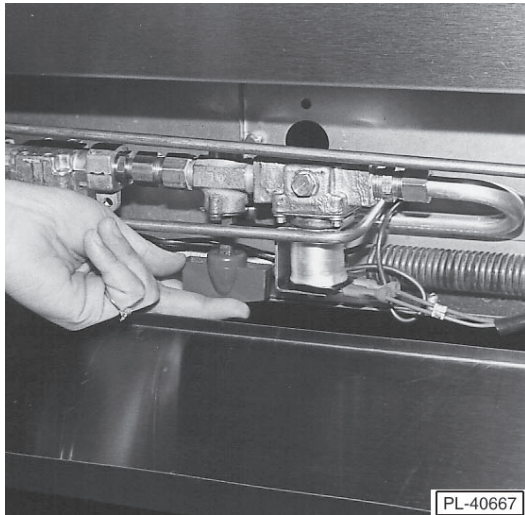

Fig. 18
2. Turn red gas valve ON (located behind the kick panel), purging the gas line of all air (Fig. 18). Turn gas valve and power switch OFF. Close oven door.